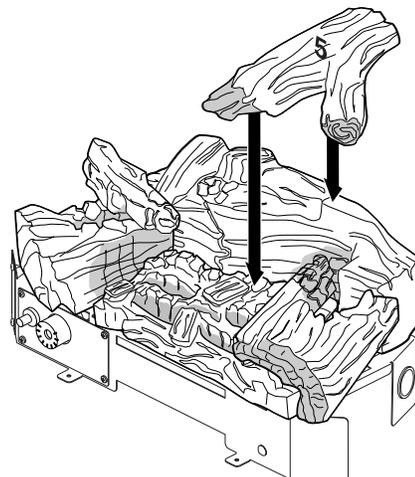

Figure 32 - Installing Log #5 (Model LGX3924NT Shown)
5. Place log #5 crossing over log #2 and log #1 as shown in Figure 32.